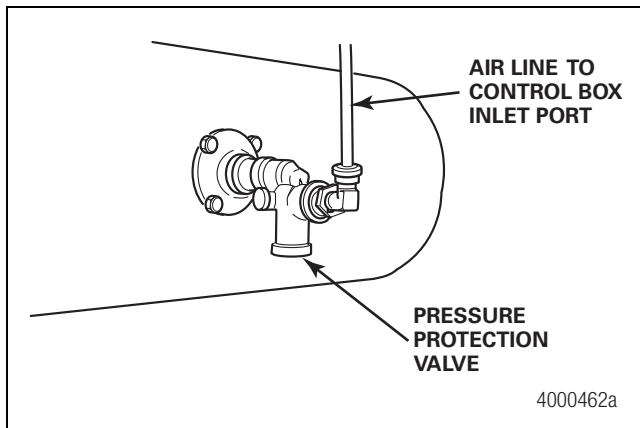
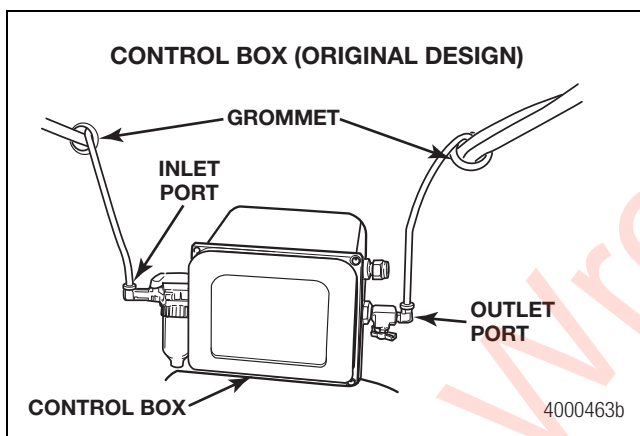
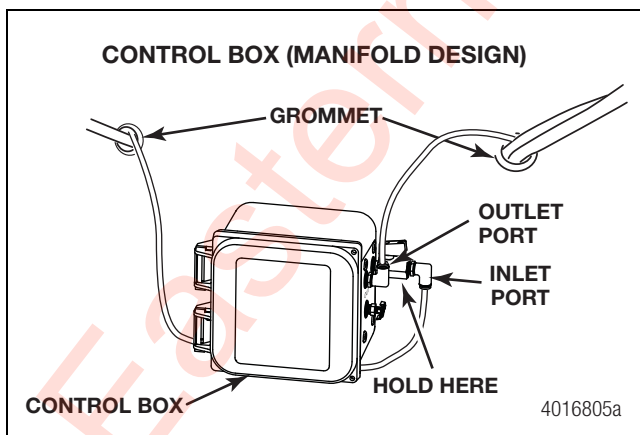

Figure 2.61
Figure 2.62
Figure 2.63
1. Route an air line from the PPV to the control box inlet port. Figure 2.61, Figure 2.62 and Figure 2.63. Hand-tighten the air line fittings, then use a 9/16-inch wrench to tighten them approximately one additional turn to obtain an airtight seal.